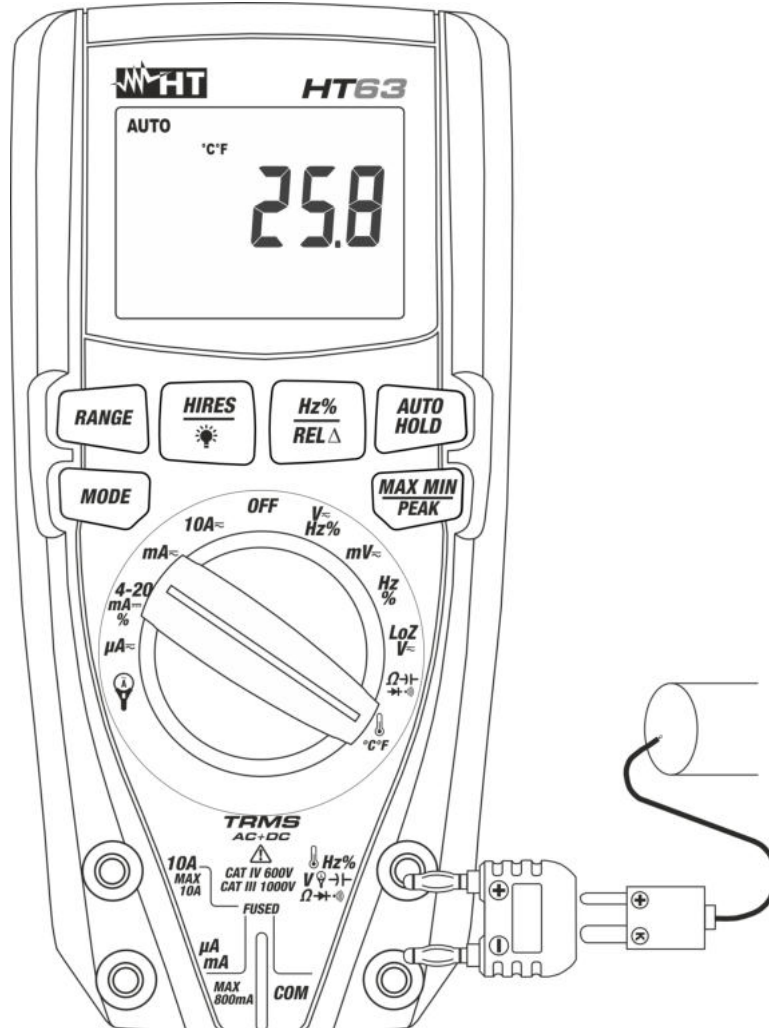

Fig. 9: Use of the instrument for Temperature measurement
3. Insert the provided adapter into input terminals Hz% V~ Hz% Ω~ (polarity +) and **COM** (polarity -) (see Fig. 9)